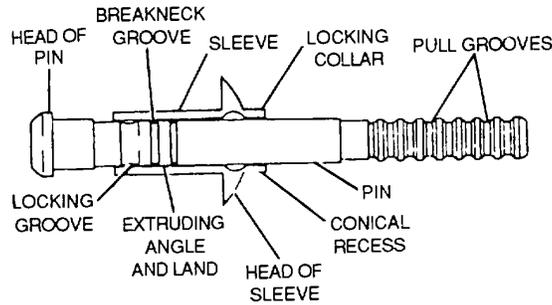

Figure 2-57. Huck Rivet
(3) *Huck rivets* Huck rivets consist of two parts a hollow sleeve made of 5056-H14 aluminum alloy having a universal or countersunk head with a conical recess and locking collar at the other end, and a pin made of 2024-T26 aluminum alloy which is pressed into the sleeve The pin is provided with an extruding angle and land to expand the sleeve for hole filling, a breakneck groove, and a head The pull grooves on the protruding end of the pin fit the jaws of the rivet tool. The rivet is shown in figure 2-57.